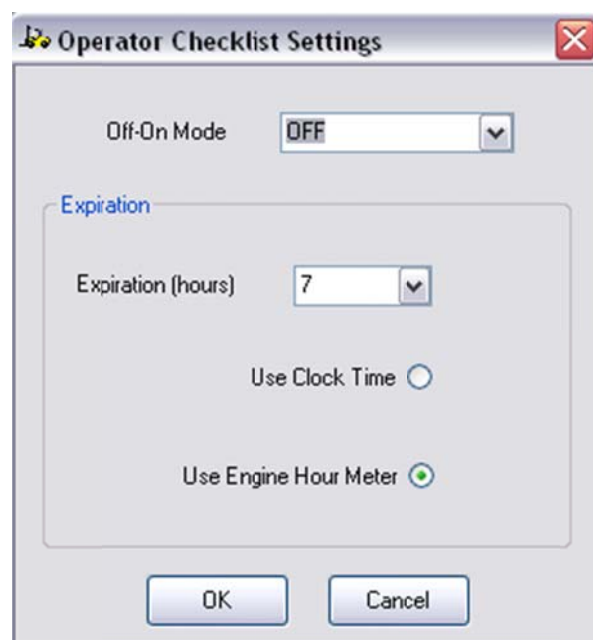

Figure 31: Operator Checklist Settings dialog box
1. Select **Truck Configuration >> Operator Checklist >> Operator Checklist Settings**. This displays the **Operator Checklist Settings** dialog box, as shown in Figure 31.